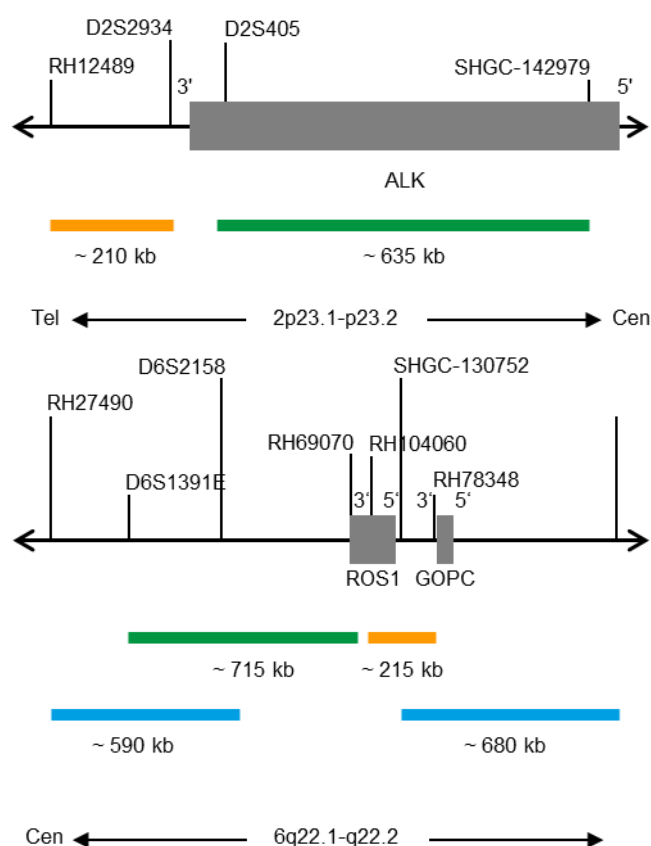

Fig. 1: Top: SPEC ALK Probe map, Bottom: SPEC ROS1 Probe map (not to scale)
- ZyGreen (excitation 503 nm/emission 528 nm) labeled polynucleotides (~10.0 ng/μl), which target sequences mapping in 2p23.1-p23.2\* (chr2:29,460,144-30,095,822) proximal to the ALK breakpoint region and in 6q22.1\* (chr6:116,912,298-117,627,255) proximal to the ROS1 breakpoint region (see Fig. 1).
- ZyOrange (excitation 547 nm/emission 572 nm) labeled polynucleotides (~2.5 ng/μl), which target sequences mapping in 2p23.2\* (chr2:29,174,204-29,383,335) distal to the ALK breakpoint region and in 6q22.1\* (chr6:117,659,135-117,871,701) distal to the ROS1 breakpoint region (see Fig. 1).
- ZyBlue (excitation 418 nm/emission 467 nm) labeled polynucleotides, (~70.0 ng/μl), which target sequences mapping in 6q22.1\* (chr6:116,671,642-117,260,761) proximal to the ROS1 breakpoint region co-localizing with the green-labeled ROS1 polynucleotides and in 6q22.1-q22.2\* (chr6:117,765,211-118,444,005) distal to the ROS1 breakpoint region co-localizing with the orange-labeled ROS1 polynucleotides (see Fig. 1).